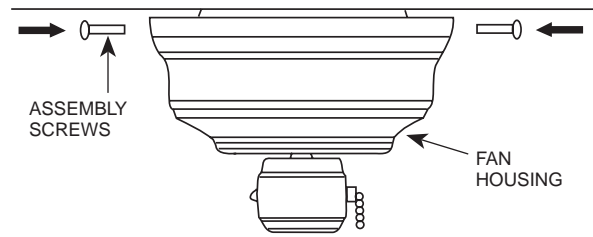

FIGURE 6A
**B.** Place the fan housing over the motor assembly and fasten the housing to the ceiling plate using the four screws provided (two each side). See Figure 6A.